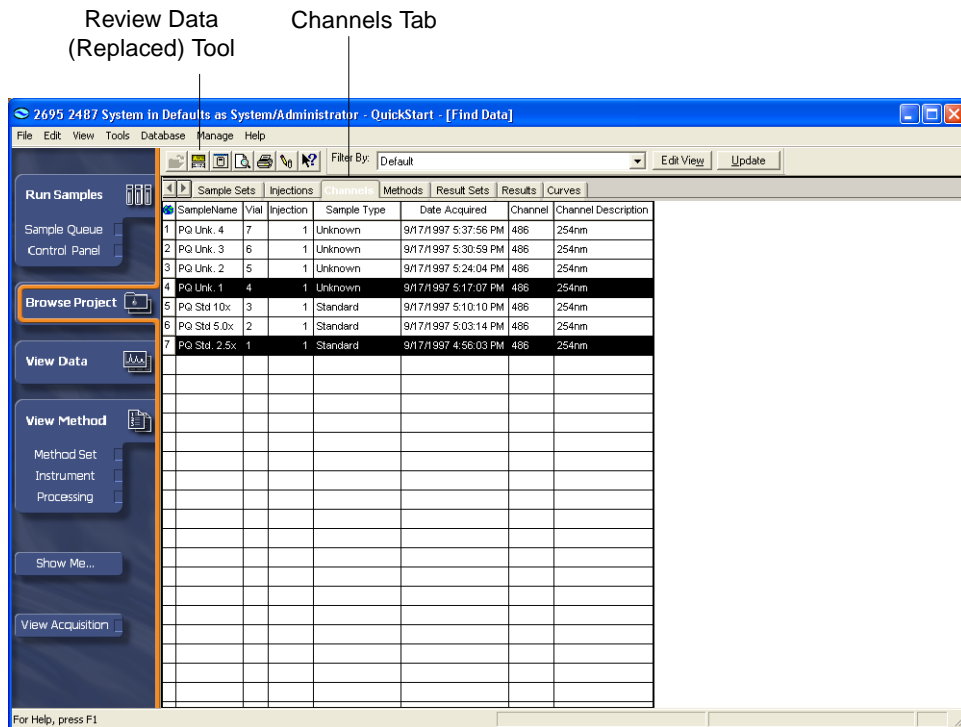

Figure 6-1 Browse Project, Channels Tab
1. Click **Browse Project** on the navigation bar. Click the **Channels** tab to access the unprocessed channels data (Figure 6-1).
2. Click **PQ Std 2.5x**, hold the **Ctrl** key, then click one of the samples named **Unk**. These two samples are selected in the Channels table (Figure 6-1).